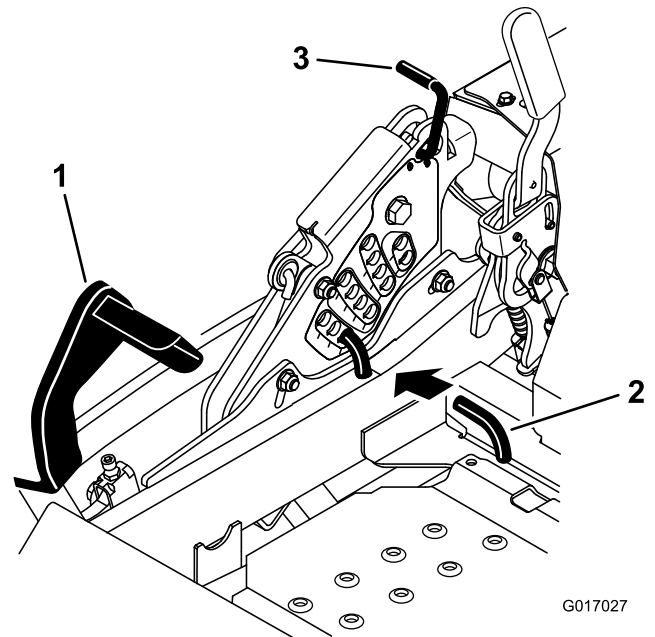

Figure 87
5. Push the deck-lift pedal all the way forward and the deck will latch at the 14 cm (5-1/2 inches) transport position (Figure 87).